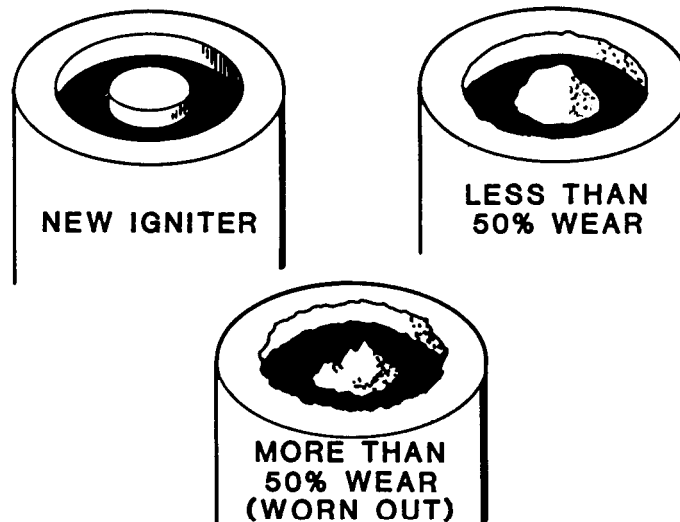

Figure 4-32. Typical Electrode Erosion
(1) If necessary, carefully brush firing end with stiff-bristled non-metallic brush, or carefully wipe with P-D-680 and cloth.
(2) Use dry cloth or fiber bristle brush to remove residue from exterior of spark igniter shell.
(3) Inspect spark igniter for electrical or thermal damage. Replace if damaged.
(4) Inspect threads for damage. Replace spark igniter if damaged.
(5) Inspect thermal well for cracked or loose ceramic. Replace spark igniter if damaged.
(6) Inspect firing end insulator for chips, grooves, and cracks. Replace spark igniter if damaged.
(7) Inspect mounting flange for damage.
(8) Inspect electrode for excessive erosion. See figure 4-32. Compare electrode with electrode on new spark igniter. If electrode has eroded more than 50%, replace spark igniter.